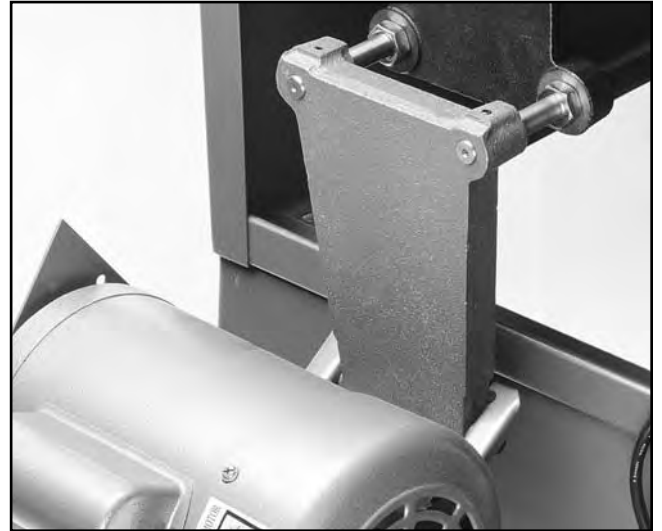

Figure 17. Attaching motor to linking bars.
5. Turn the arbor tilting handwheel until the arbor is set to 0°. Slide the motor assembly onto the linking bars through the holes in the motor bracket. Line up the setscrews with the grooves on the linking bars and tighten as shown in **Figure 17**.